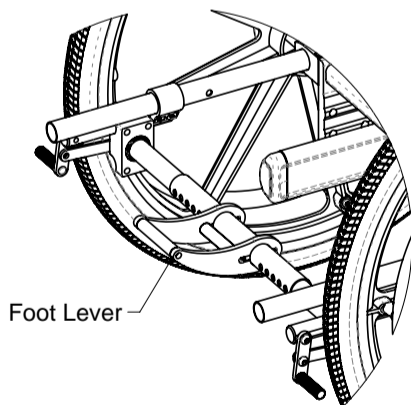

Figure 14.36: Foot Operated Wheel Lock
6. To engage and disengage the Foot Operated Wheel Lock, simply push down or flip up the foot lever shown in Figure 14.36.